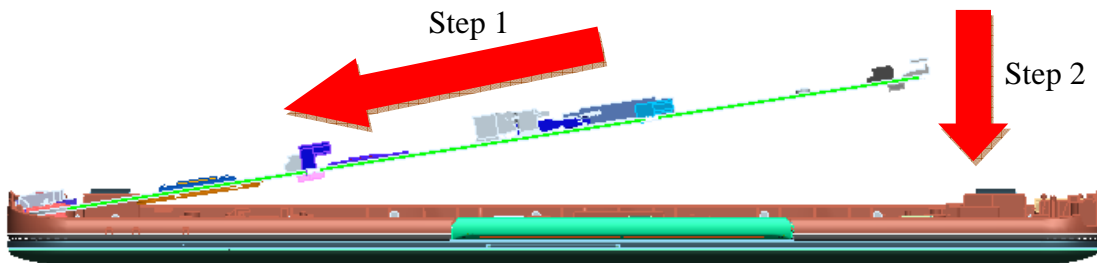

Figure 4-13-3 Install the System Board by step1 step2
1. Follow the below instruction to set the system board on Top assembly slantwise. (See Figure 4-13-3)